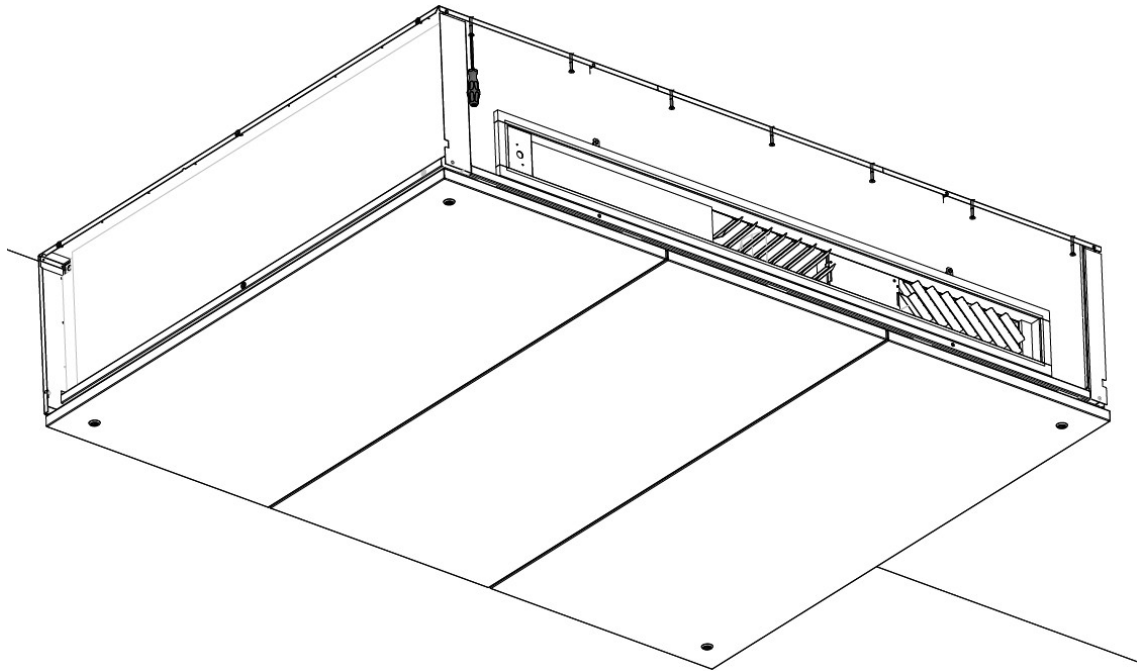

Figure 21: Mount the front bracket to the ceiling
6. Mount the front bracket onto the ceiling, see Figure 21. Use *all* the attachment points.